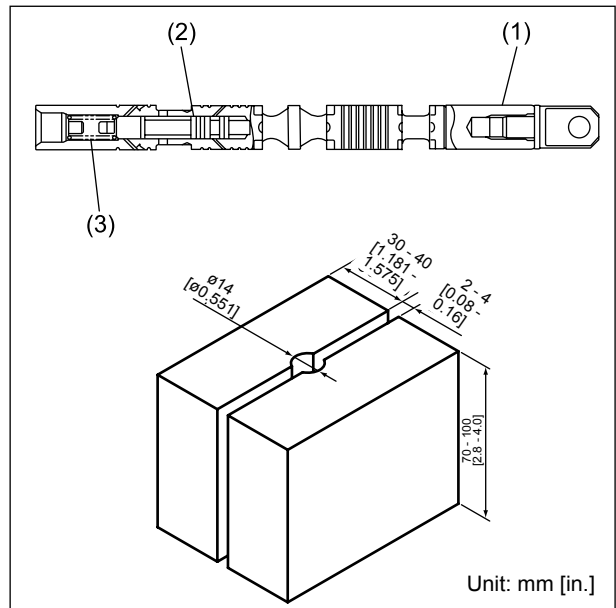

Fig. 3.452
(4) Reassembling tilt spool section
- ① Hold the spool (1) in a vise equipped with soft jaws (pieces of hard wood) shown in Figure 3.452, with care not to damage its exterior. Insert the valve (2) into the spool (1) using the M4 screw at the end face and then insert the spring (3).